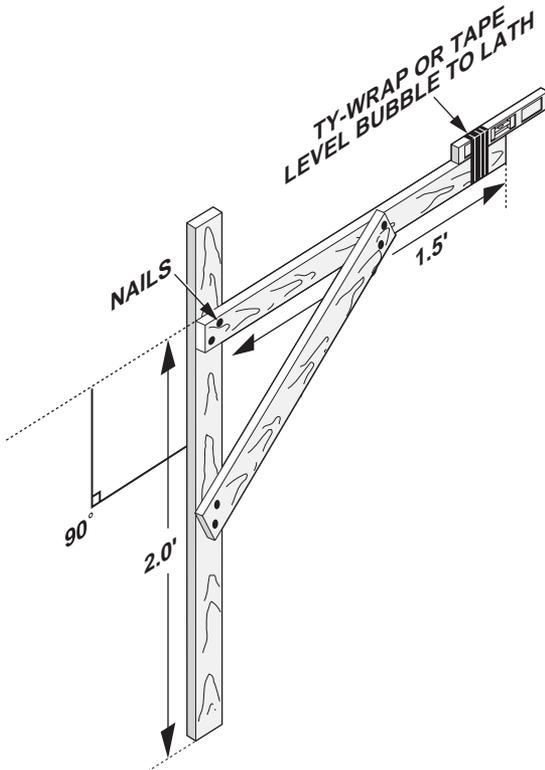

Figure 3-16. Grade Checking Lath
1. Construct a Grade Checking Lath using a lath, a level bubble, nails, and standard hand tools as shown in Figure 3-16.